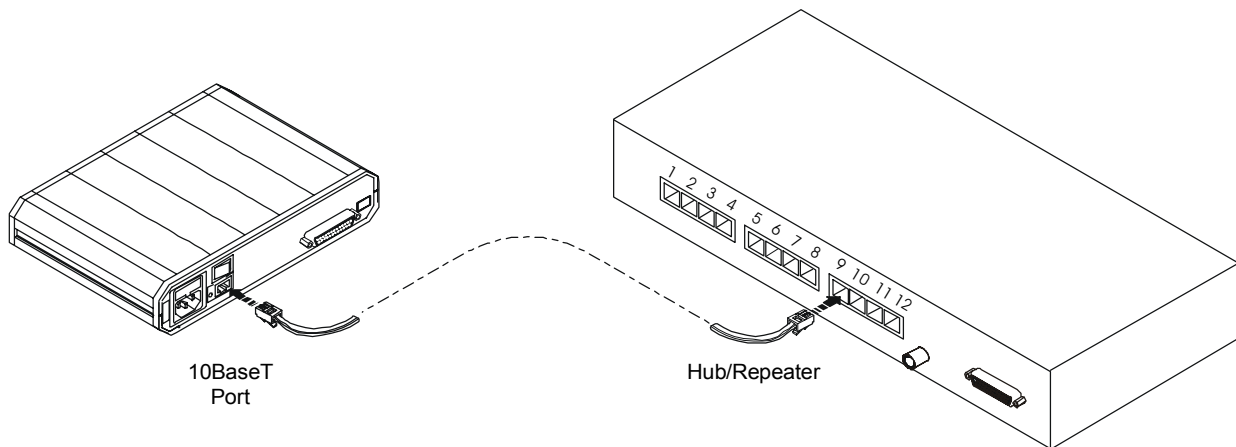

Figure 2-7. Connecting to the LAN
2. Attach the other end of the cable to the Hub/Repeater (see Figure 2-7). Use a cross Ethernet cable if you are connecting between WEB RANger-II and the LAN.